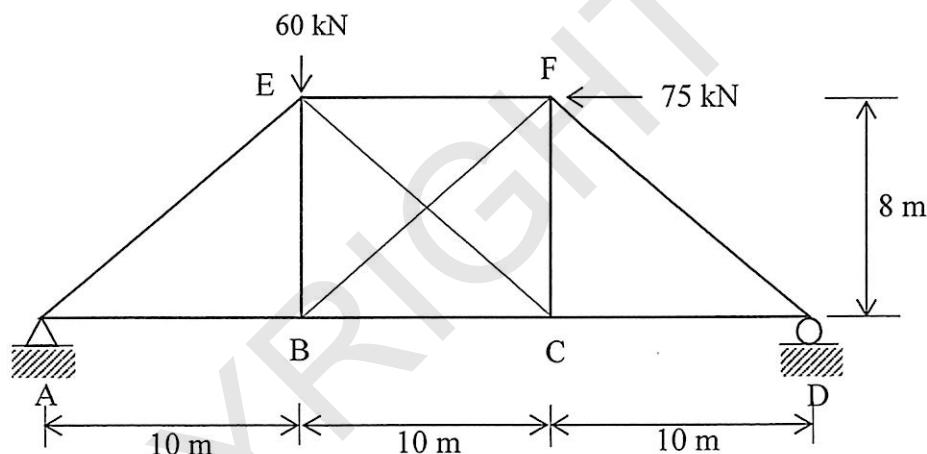

Figure A1(c) / Rajah A1(c)
- CLO2 (c) A statically indeterminate truss is subjected to an external load as shown in Figure A1(c). Given the cross-sectional area, A and modulus of elasticity, E is constant for each member of the truss and internal force as shown in Table A1(c). Calculate the internal forces for each truss member by using the magnitude of redundant, R. Take member BF as a redundant member.